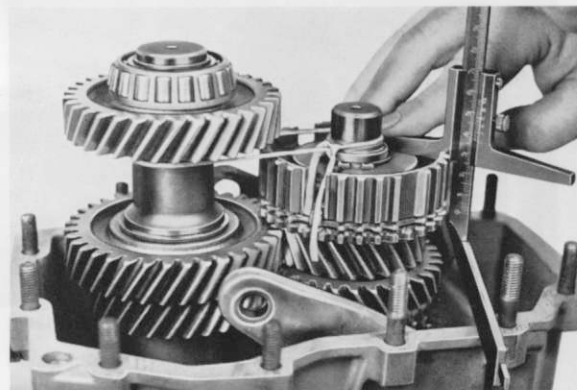

Fig. 45
6. Snap the spring ring (425) into the radial groove of the ball bearing (423). Push ball bearing with the spacer (424) dismantled during disassembly onto the mainshaft (Fig. 45). Bind layshaft to the mainshaft with tape (see Fig. 45).
7. With pressing tool .8., the threaded pieces belonging to it and the 2 distance bushes (426 and 428), press the ball bearing to the stop on the thrust washer (422). Then tap the ball in the housing bore. Leave tool .8. tight.
8. Turn the housing such that the open side points upwards. With a depth gauge measure from the face of the synchro-body to the gearbox joint face (without gasket) (Fig. 45). A straight edge with the high lip on which the slide of the depth gauge is set must be put onto the gearbox joint face (Fig. 45). The measurement established plus the width of the straight edge should amount to $53,5 \pm 0,1$ mm. The difference between the measured size and the theoretical size shows the thickness of the spacer (424), which lies between the recess of the housing and the spring ring (425). The shim (424) which is available in thicknesses of 0,6; 0,8; 1,0; 1,2 and 1,4 mm must, if necessary, be exchanged. Stand gearbox in horizontal position again and take of pressing tool .8.